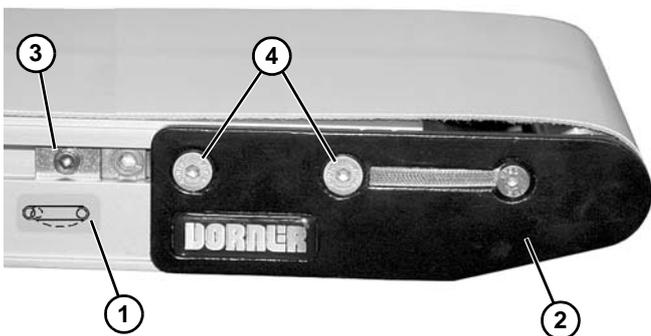

Figure 32
5. On tension end of the conveyor, identified with  a label (Figure 32, item 1), push in headplate assembly (Figure 32, item 2):
- a. On both sides of conveyor, loosen and move cam tracking assemblies (Figure 32, item 3) (if equipped) away from headplates.
- b. Loosen fastening screws (Figure 32, item 4) and push headplate assembly inward.